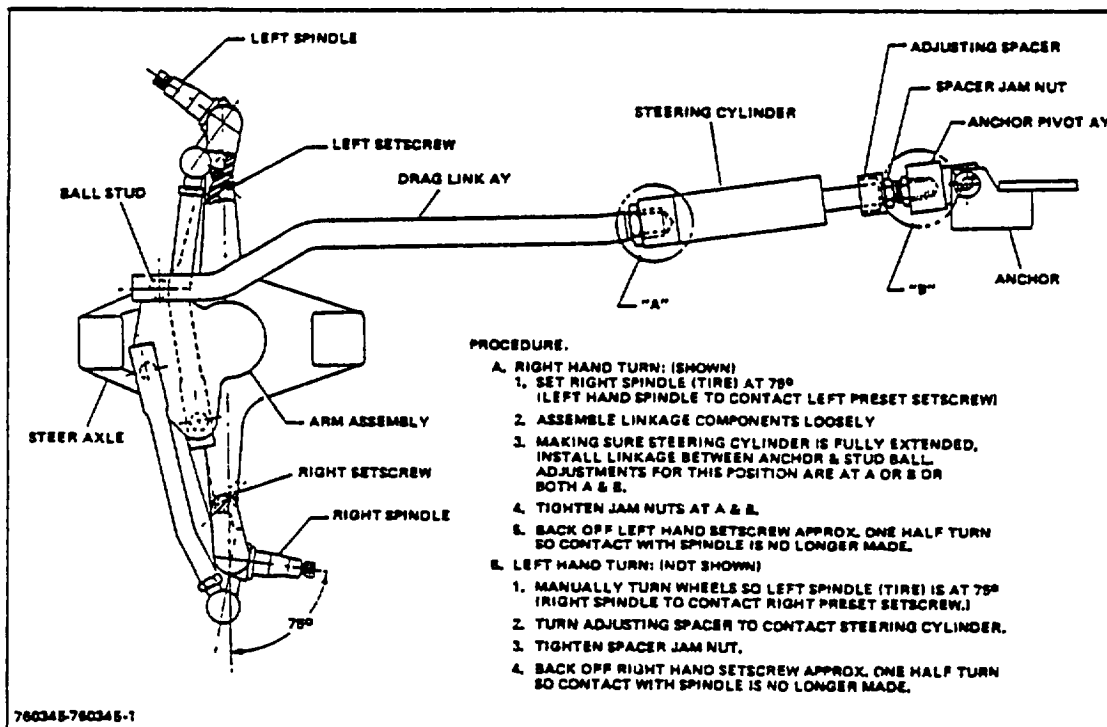

Figure 33. Drag Link Adjustment
3. If cylinder rod is out of adjustment loosen jam nuts (Fig 33) and turn rod in or out of anchor pivot until properly adjusted. Tighten jam nuts to 150-170 lb-ft.
4. Turn steering wheels to full left hand turn. Spacer (Fig 33) should strike cylinder tube and pivot arm screw hit stop simultaneously.